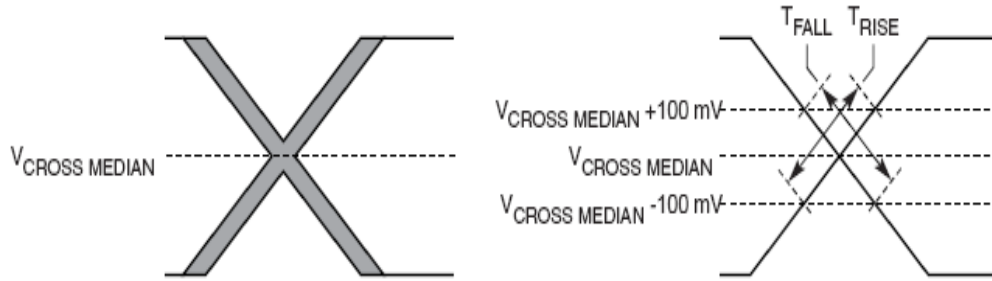

Figure 48. Single-Ended Measurement Points for Rise and Fall Time Matching
6. Matching applies to rising edge for $\text{SD}_n_{\text{REF_CLK}}$ and falling edge rate for $\overline{\text{SD}}_n_{\text{REF_CLK}}$. It is measured using a 200 mV window centered on the median cross point where $\text{SD}_n_{\text{REF_CLK}}$ rising meets $\overline{\text{SD}}_n_{\text{REF_CLK}}$ falling. The median cross point is used to calculate the voltage thresholds that the oscilloscope uses for the edge rate calculations. The rise edge rate of $\text{SD}_n_{\text{REF_CLK}}$ should be compared to the fall edge rate of $\overline{\text{SD}}_n_{\text{REF_CLK}}$, the maximum allowed difference should not exceed 20% of the slowest edge rate. See Figure 48.